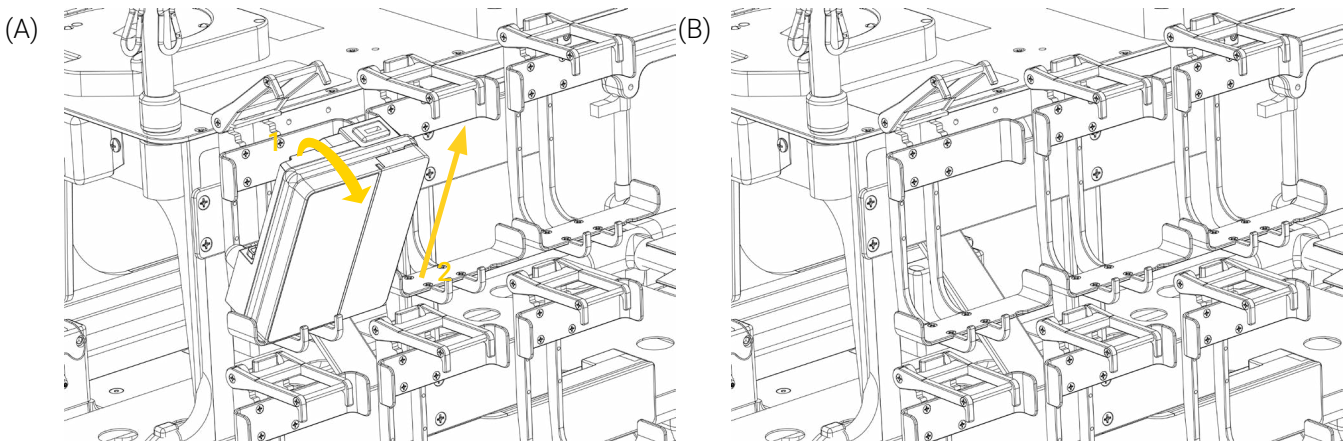

Figure 14: Removing the Baxter Spectrum IQ infusion pump
2. Tilt the pump forward (Figure 14 A), then pull out the pump to remove it (Figure 14 B). Set the pump aside.